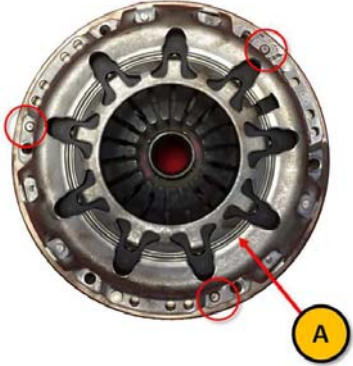

Figure 48
- Refer to Figure 48:
3. Install the clutch cover assembly (A) (OHT p/n OHTIVB-31210-1) onto the flywheel. Align the flywheel dowel pins with the holes on the clutch cover, as indicated.
4. Secure the clutch cover assembly to the flywheel with six (6) bolts around the perimeter of the flywheel. Hand-tighten only such that the pressure plate can still be moved within the clutch cover assembly.